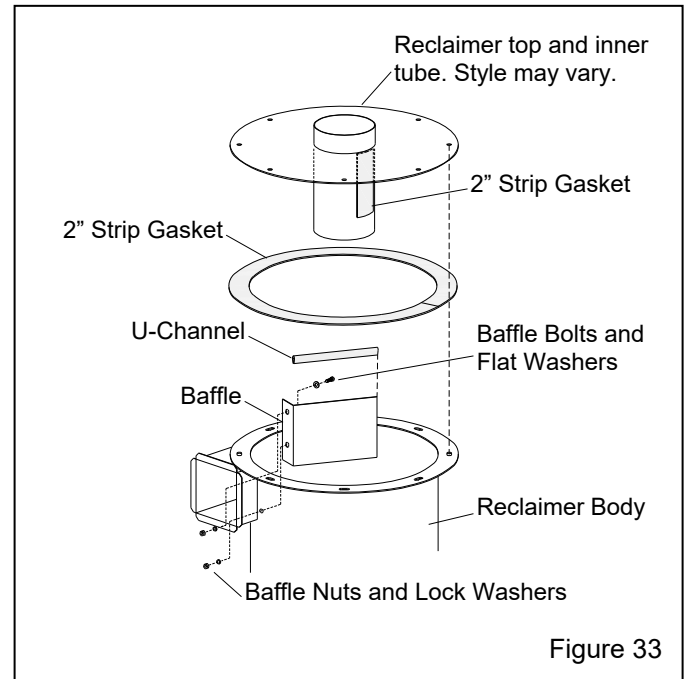

Figure 33
7.12 Removing or Replacing Reclaimer Inlet Baffle – Figure 33